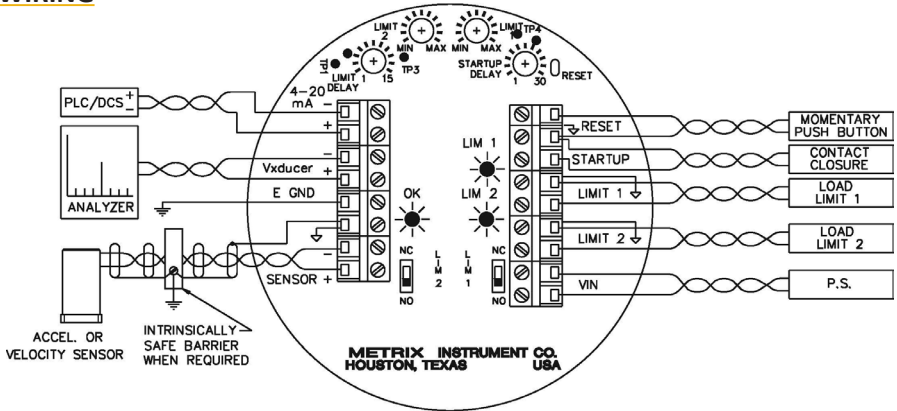

Figure 1: Wiring Diagram (LCD option not shown)
Refer to figure 1 for wiring information. For incoming power and switch output(s) use approved wire of 14 AWG (1.5 sq. mm) or smaller.
A. Set each SM6100 for N.C. (normally closed) operation. (See Fig. 1)
The optional FET limit output(s) provide a low leakage switch for DC inputs to PLC's or other devices. Do not use on an AC supply. Observe proper polarity when wiring the FET(s) (See figure 1). Damage to the FET(s) will result from improper wiring. As with the triacs, the FET(s) can be set for N.C. or N.O. operation by positioning the Limit 1/Limit 2 switches accordingly.
If remote reset capability is desired, connect Reset terminals (see Figure 1) to a remotely located, momentary N.O. push-button switch. Observe hazardous area requirements if applicable.
If the optional 4-20 mA output is installed it may be connected to a remote receiver, as shown on the wiring diagram (see Figure 1). This output is a current source (at 15VDC) and requires no external loop power supply. Full scale current (20 mA) corresponds to the full scale vibration response marked on the face plate. A current of 4.0 mA represents a zero vibration condition. The maximum load resistance is 600 ohms. In high electrical noise locations a shielded, twisted pair cable is recommended.